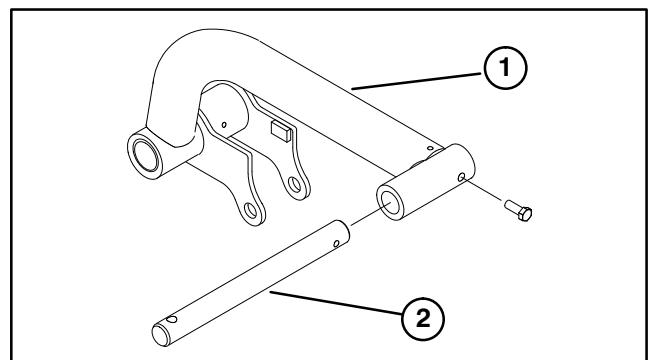

Figure 12
2. Insert a pivot rod into each (R.H. & L.H.) lift arm and align mounting holes (Fig. 12).